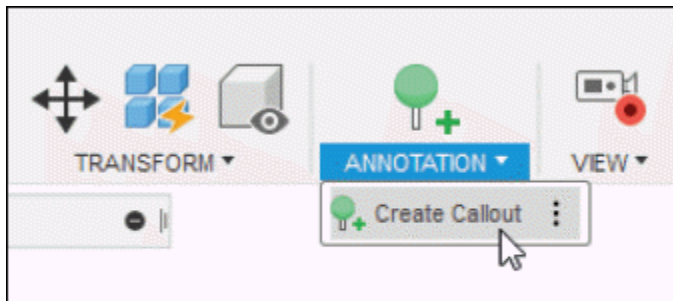

Figure-51. Create Callout tool
- Click on the **Create Callout** tool from **ANNOTATION** panel; refer to Figure-51. The callout symbol will be attached to the cursor.